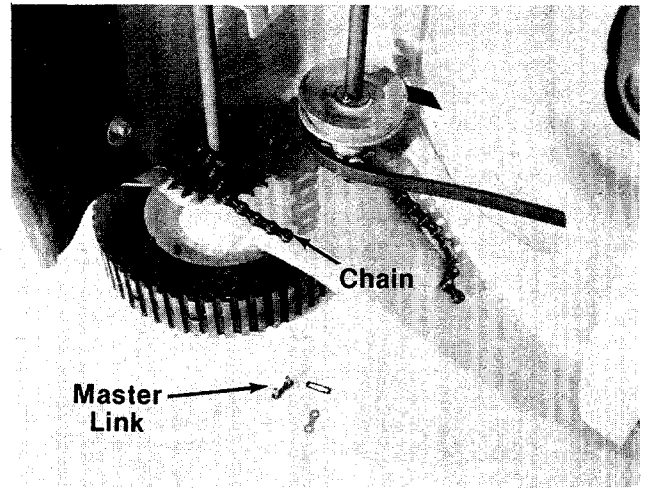

FIGURE 27.
9. Remove the master link from the chain. See figure 27.